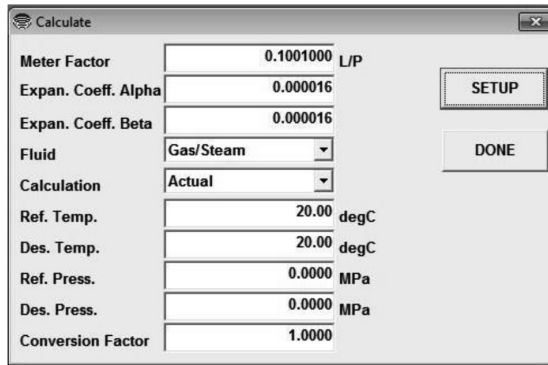

Fig.28
- ① Click on "Configure (M)" at top-level menu of the screen, select "Calculate (C)" and click on again.
- ② A message box like the one in Fig. 28 concerning the "Calculation" appears.